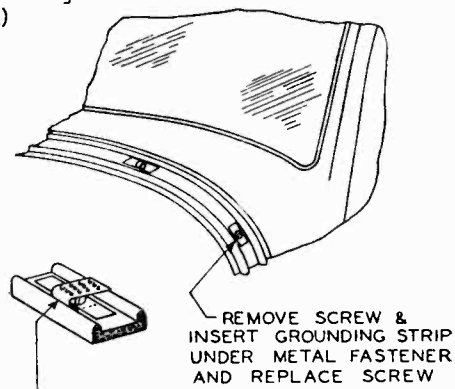

FIG. 7
5. Install the motor hood grounding spring. (Fig. 7.)